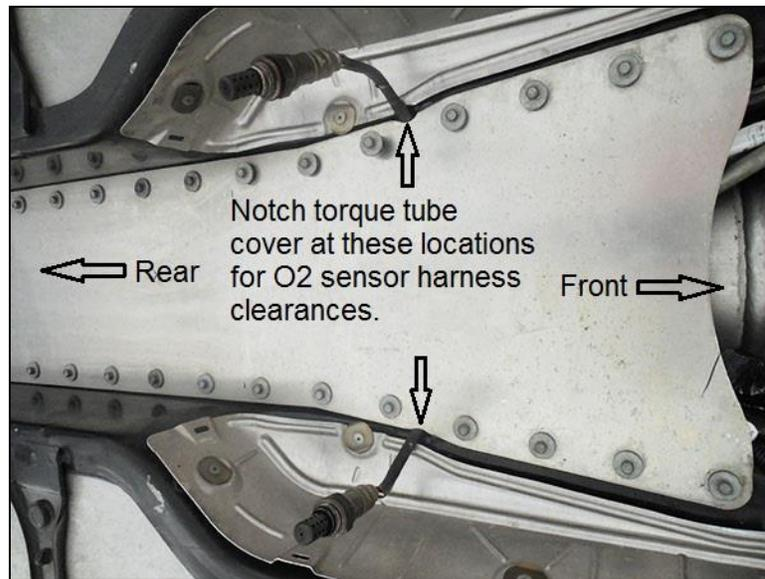

Figure 1
2. Mark the torque tube tunnel cover at the locations shown in **Figure 1**, outlining a penny or dime for reference works well.